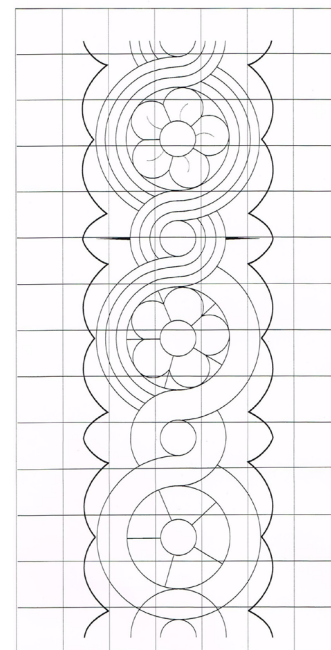

Figure. 1
1. Photocopy or redraw the design to scale referring to Figure 1. Recreate the drawing so that each square of the grid measures precisely 20mm. It is advisable to use a compass to form the circles. Once the drawing is accurately reproduced, you could make a stencil, which will help when marking out long lengths of the repetitive design.